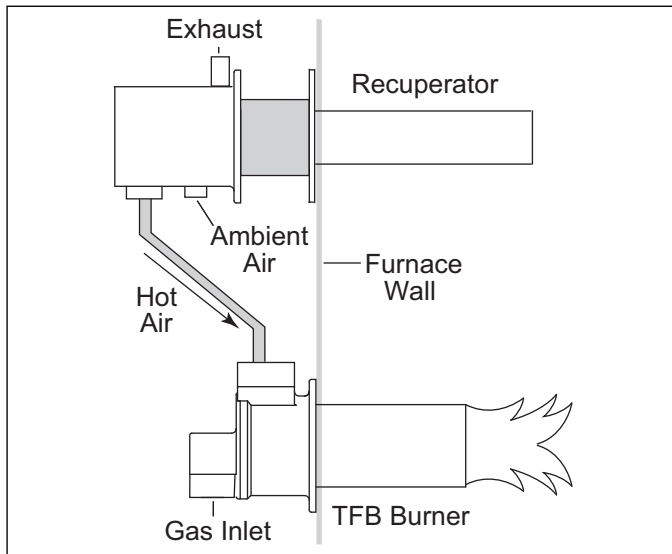

Figure 3.8. Install the Recuperator
- Insulate hot air piping and portion of recuperator shown shaded in Figure 3.8 with "Moist PAK-D" by Fiberfrax, Eclipse part #57325.